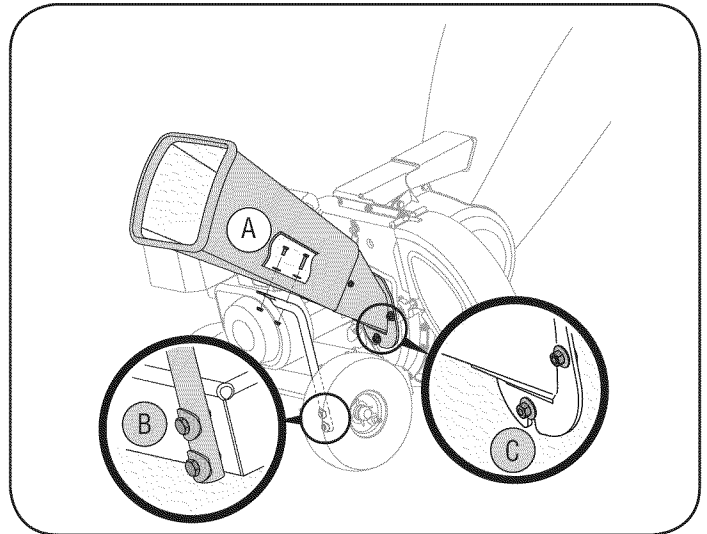

Figure 7
A. Align the holes in the chute with the holes in the top of the brace and attach brace to chipper chute with hardware previously removed. The flat washers should be placed under the bolt heads and against the inside surface of the plastic chipper chute. Tighten securely. See Figure 7.